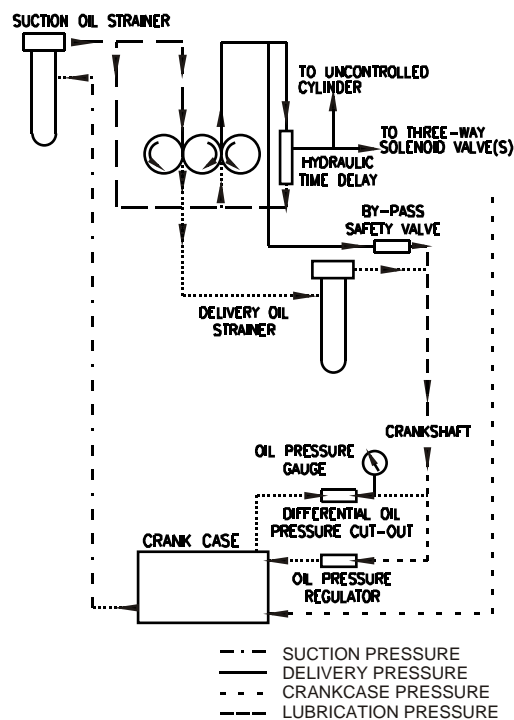

Fig. 3 Diagrammatic layout of oil circuit.
2.10.1. The lubrication of the compressor is of the forced feed type and effected by means of a gear type oil pump, driven directly from the crankshaft. The lubricating oil circuit is shown in fig. 3.
2.10.2. The oil enters the pump via the suction oil strainer and is discharged, through a delivery oil strainer, into the oil way drilled in the crankshaft (see also fig. 3 and para 2.8). Internal oil ways carry the oil from the main oil way in the crankshaft to the bearings and crank pins.